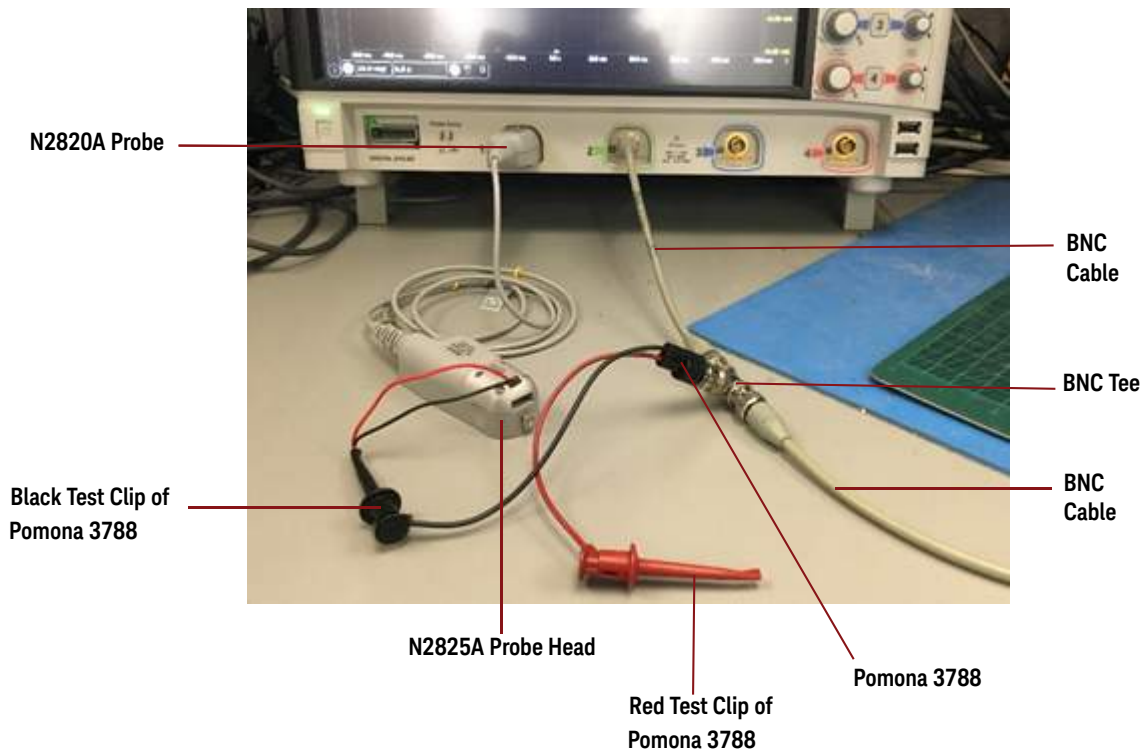

Figure 30 Example of Initial Calibration Setup
- 4 Connect the equipment as shown in Figure 30 on page 67. Observe the following requirements:
- Connect the Pomona 3788 to two BNC cables using a BNC tee. Then connect one of these BNC cables to a scope channel and the other BNC cable to the Aux Output BNC connector located on the Oscilloscope's rear-panel (as shown in Figure 30).
- Connect both the N2825A's sensor leads (red and black wires) to the black test clip of the Pomona 3788 as shown in Figure 30.